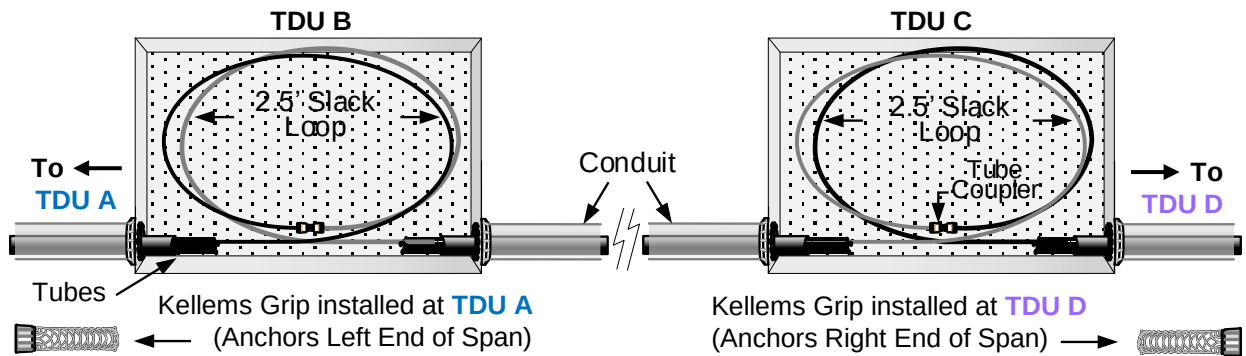

Figure 7A
10.7.1 **See Fig. 7A.** In the example above, assume an end-to-end span distance of 1000-feet from TDU A to TDU D (not shown). TDUs B and C (shown) are installed mid-run. Kellems Grips are used to anchor the ends of TCxxMSOS Tube Cable in or at TDUs A and D while any thermal slack will be managed within TDUs B and C.